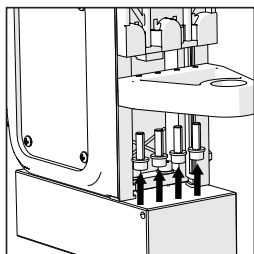

FIG. 8
- Remove the arbor support bracket by removing the 4 x M5 socket headed bolts. (**Fig. 8**)